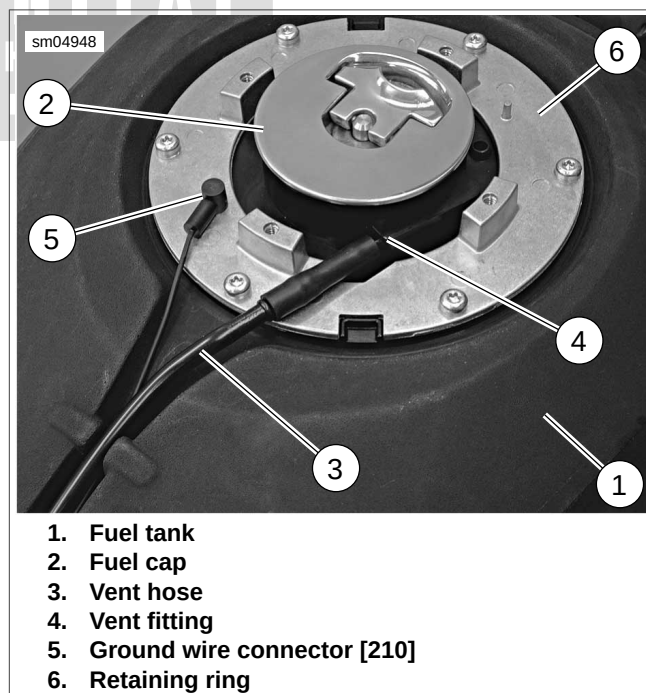

Figure 4-22. Fuel Tank Vent Hose and Ground Wire
7. See Figure 4-22. Remove vent hose (3) from fuel tank vent fitting (4). With a gentle twisting motion, pull ground wire connector [210] (5) straight up off pin on fuel tank retaining ring (6).
- See Figure 4-22. Connect vent hose (3) and ground wire (5) as shown. Route ground wire and vent hose in trough in top of tank.